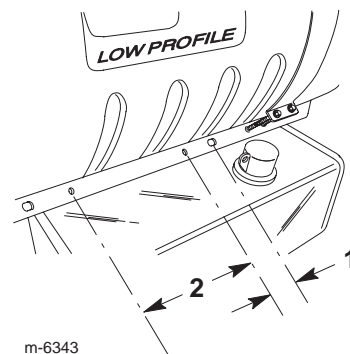

Figure 1
3. On the tank saddle on the right side of the machine, locate the third hole from the front of the machine. Measure and mark a location on the tank saddle 2 inches (5 cm) behind the center of the 3rd hole (Fig. 1).
4. From your mark, measure 10 inches (25 cm) rearward and mark that location (Fig. 1).
5. Drill 2 holes (7/16 inch dia) at the marked locations, centered vertically in the tank saddle (Fig. 1).